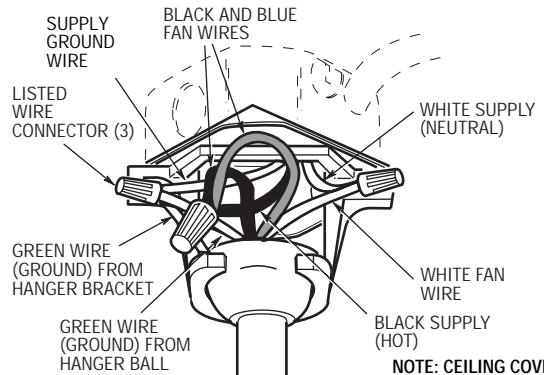

Figure 11
- 1. Connect the green grounding lead from the hanger ball and the green grounding lead from the hanger bracket to the grounding conductor of supply (this may be a bare wire or wire with green colored insulation). Securely connect wires with wire connectors supplied. (Figure 11.)
- 2. Securely connect the fan motor white wire to the supply white (neutral) wire using wire connector supplied (Figure 11). Securely connect the fan motor black wire and blue wire to the supply black (hot) wire using wire connector supplied (Figure 11). After connections have been made, turn leads upward and carefully push leads into the outlet box, with the white and green leads on one side of the outlet box and the black and blue leads on the other side of the outlet box.